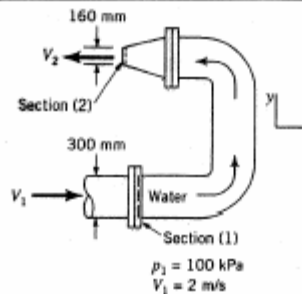

FIGURE P5.32
5.32 Determine the magnitude and direction of the anchoring force needed to hold the horizontal elbow and nozzle combination shown in Fig. P5.32 in place. Atmospheric pressure is 100